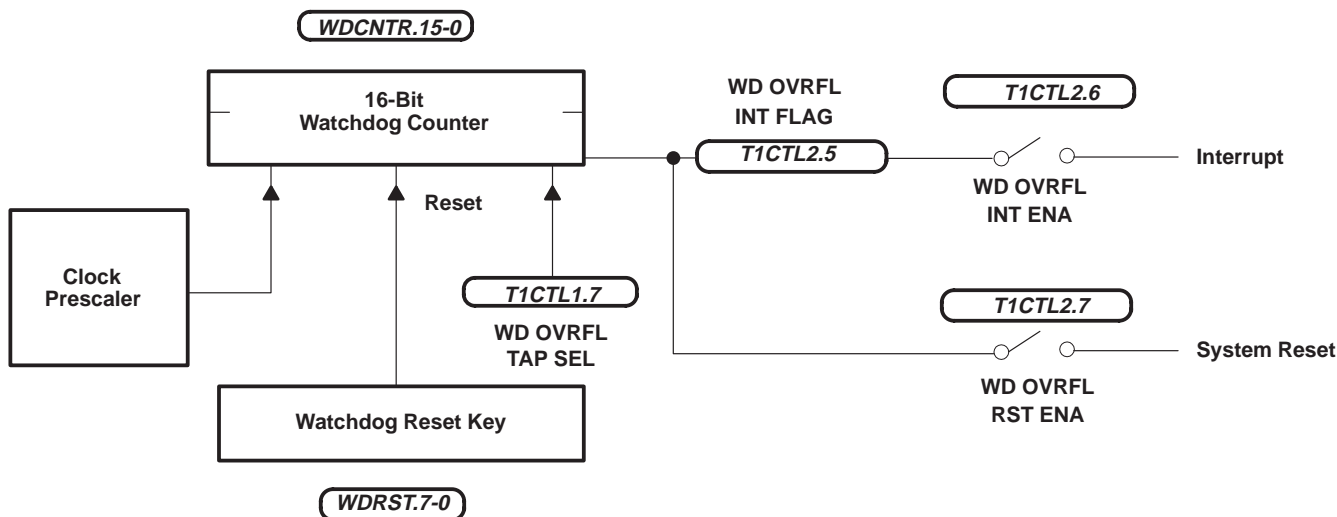

Figure 8. Standard Watchdog
- Standard watchdog configuration (see Figure 8) – for 'C75xA EPROM and mask-ROM devices